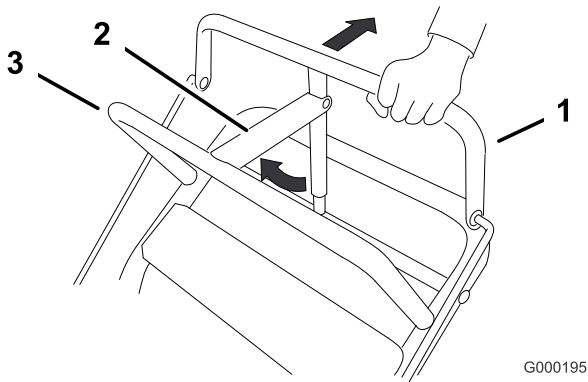

Figure 7
1. Pull the upper control bar (Figure 7) rearward and hold it in this position.
2. Lift the parking-brake lever (Figure 7) up and gradually release the upper control bar. The brake lever should stay in the set (locked) position.